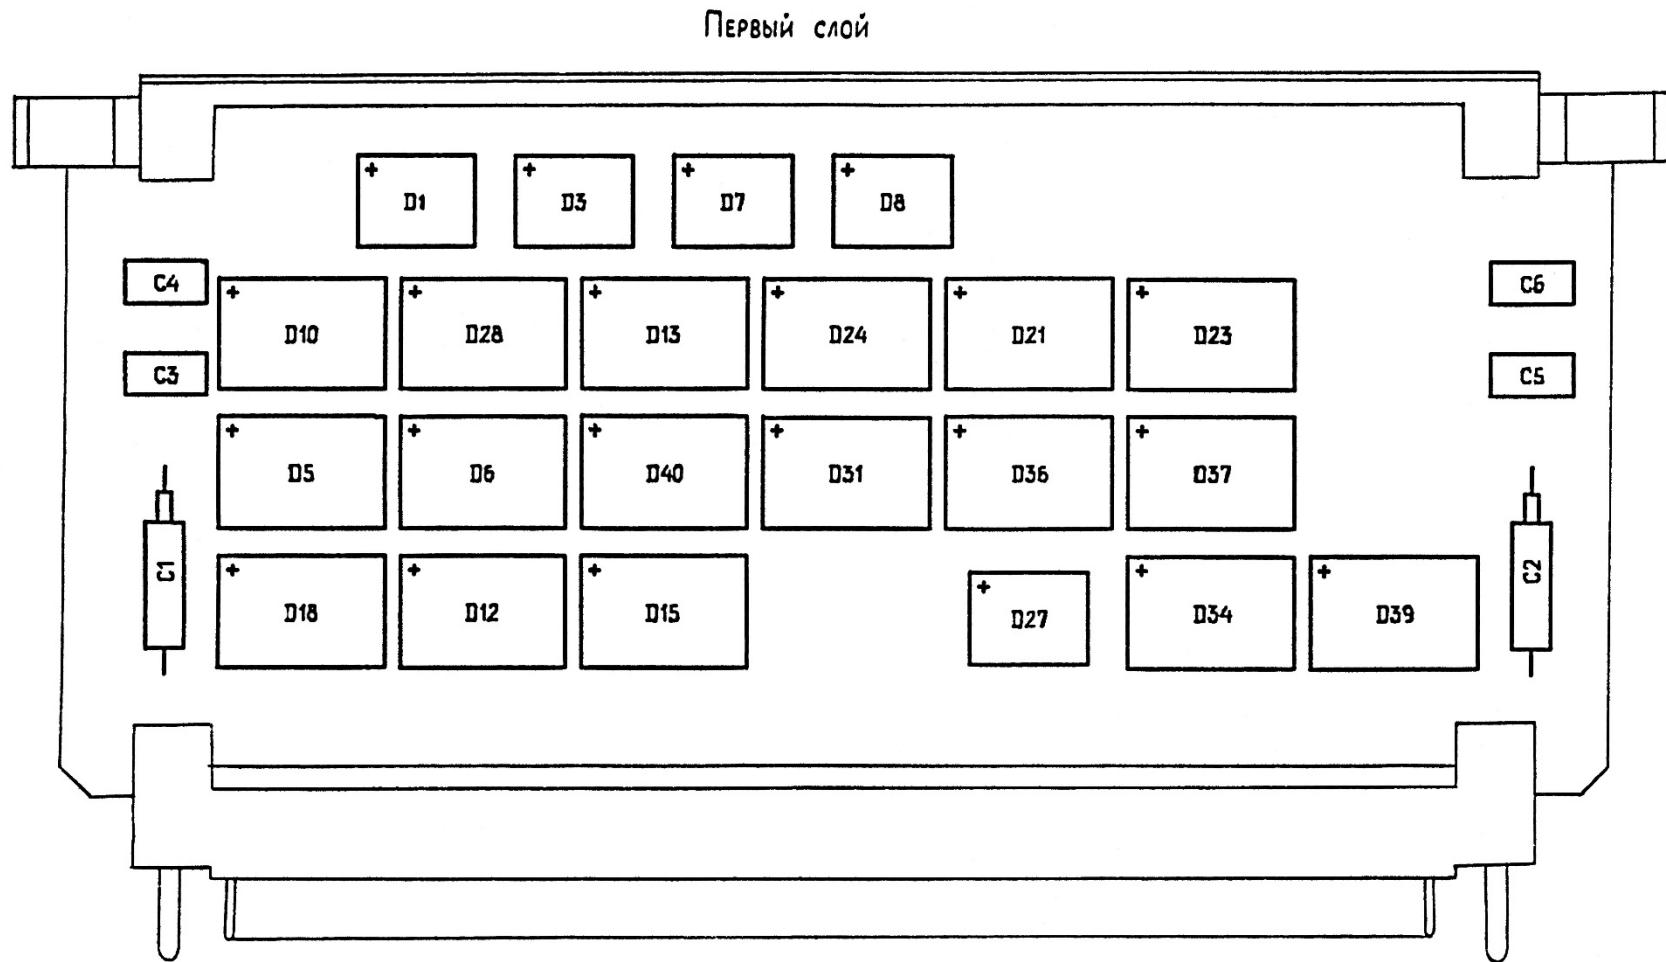

Figure 1.1 – Repair drawing of RO H6.17.06.08 ЕΦ3.035.074. First layer
1.1 During diagnostics and repair of repair object (hereinafter referred to as RO) H6.17.06.08 ЕΦ3.035.074, refer to the data of repair drawing shown in Figures 1.1, 1.2.